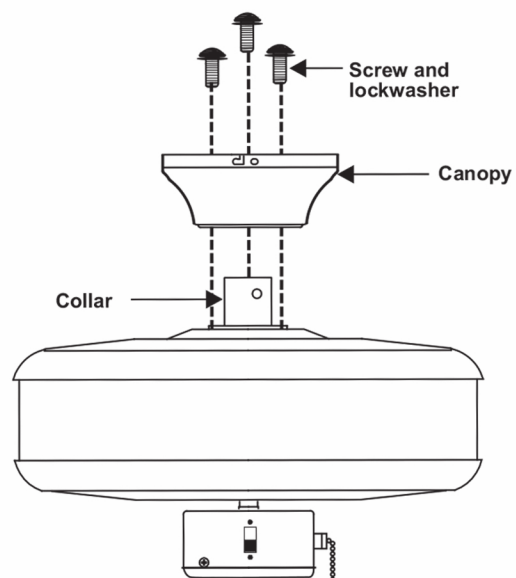

Figure 9
4. Place the ceiling canopy over the collar at the top of the motor. Align the mounting holes with the holes in the motor and fasten using the screws and lock washers provided. (Fig. 9)
5. Tighten the mounting screws securely. (Fig. 9)